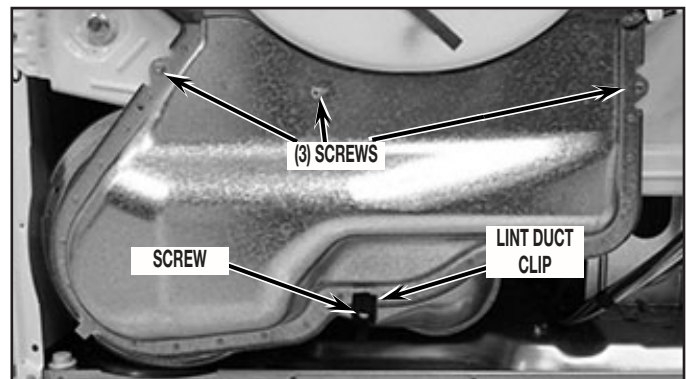

FIGURE 13
13. Remove lint duct by removing the four (4) screws and clip as shown in Figure 13.